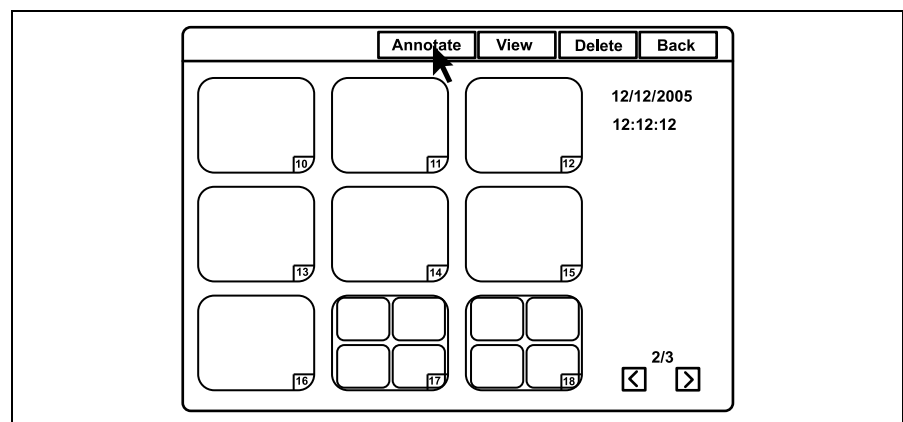

Figure 5.69
2. Click “Annotate” (see Figure 5.69).